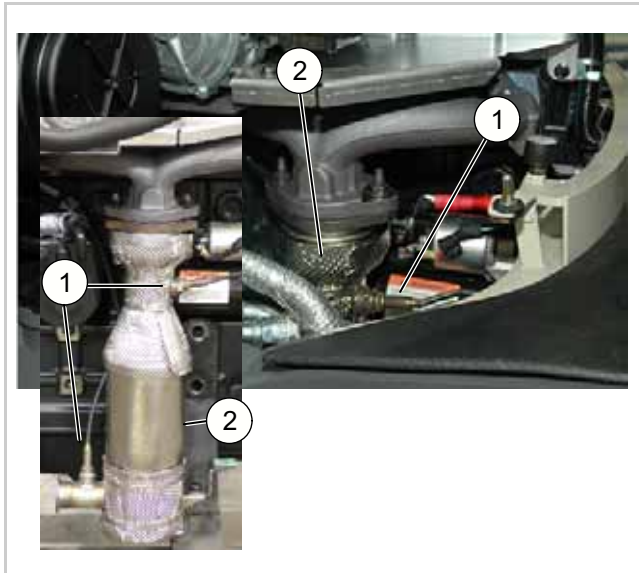

Fig. 13 (32231)
- See Figure 13. There are two oxygen sensors (1) (FB HEGO SNS1 and FB HEGO SNS2). They are located before and after the catalytic converter (2). The catalytic converter is connected to the exhaust manifold on the right side of the engine.